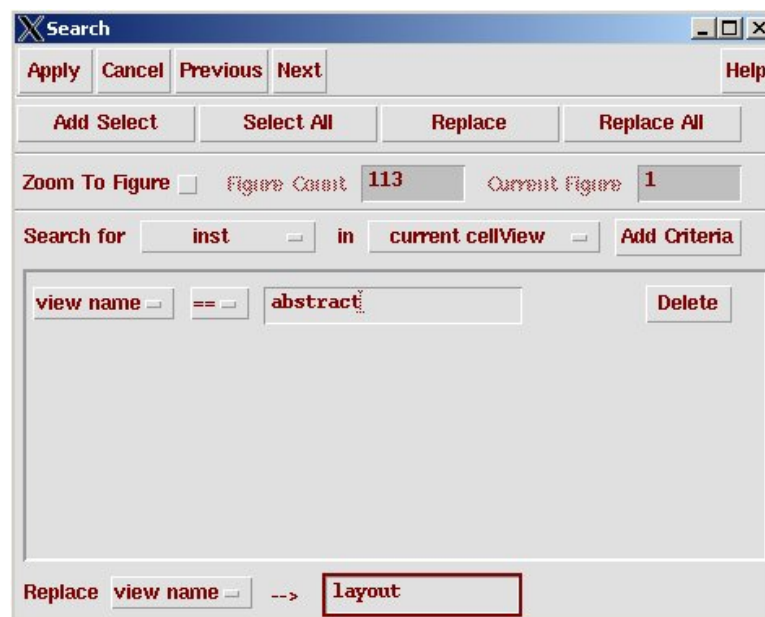

Figure 10.36: **Search** dialog box for replacing abstracts with layouts
2. Now you need to replace the view of those cells with **layout**. Click on the **Replace** field to change it to **View Name** and change the name to **layout** (See Figure 10.36). Now click on **Replace All** and all the cells whose view used to be **abstract** will be updated to use **layout** views.